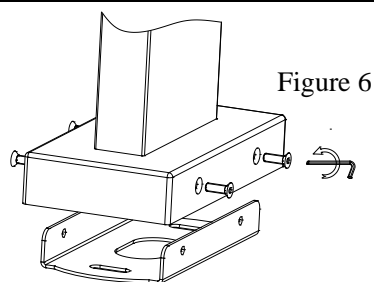
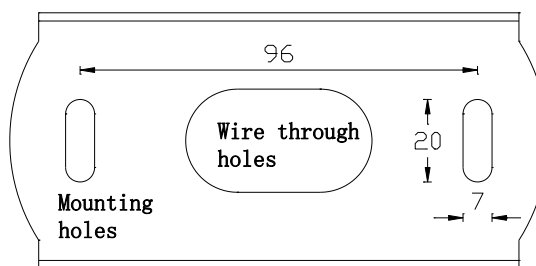
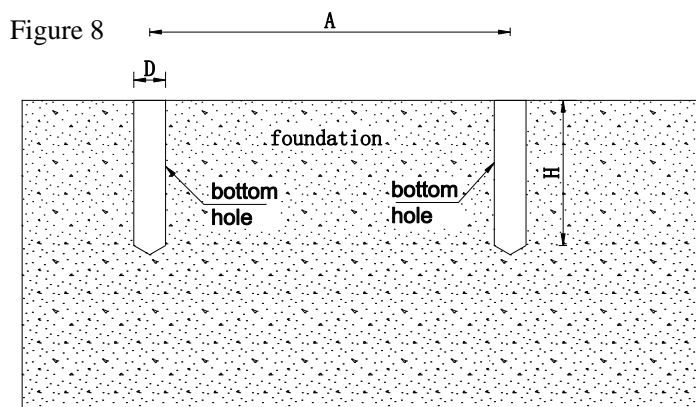

Figure 6
Figure 7
Figure 8
2.2 Unpack and take out the lamp, loosen the fastening screws on both sides of the bottom of the lamp with an Allen wrench (2.5 specification), and take out the installation chassis, Figure 6 and Figure 7
2.3 drill the bottom hole on the foundation according to the size of the mounting hole of the stainless steel chassis, Figure 7, Figure 8.